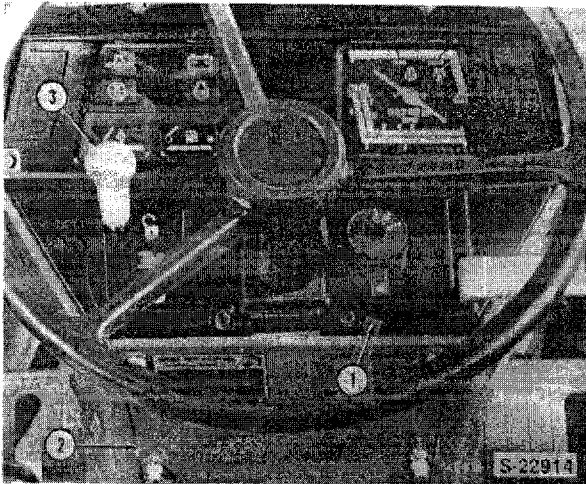

Figure 98
2. Remove the retaining screws and remove the instrument panel (1), Figure 98.
3. Remove the shroud center panel (2), Figure 98.